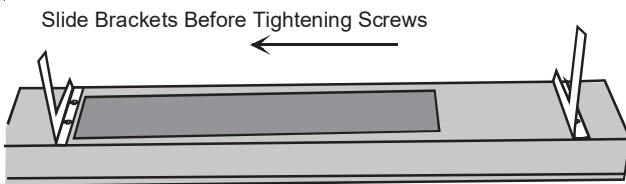

Figure 2
3. Mount the two support brackets to the bottom of the hydronic top (Figure 2) with four (4) 3/8-inch #8 supplied screws.